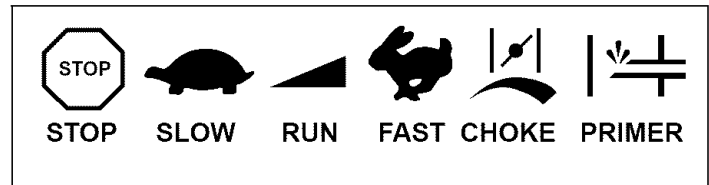

Figure 21. Typical Engine Symbols
5. Move engine speed control to "FAST" position. See Figures 21 and 22.
*If restarting a warm engine after a short shutdown, move engine speed control to "FAST" position and move choke control to "NO CHOKE" position. See Figures 21, 22 and 24. Afterward, continue reading instructions below.*
10. Move engine speed control to desired speed in "RUN" range. See Figures 21 and 22.